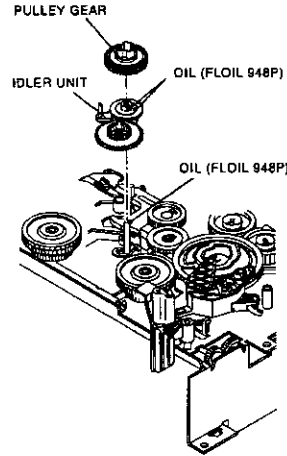

Fig. 2-24-1
- 1 Remove the PULLEY GEAR shown in Fig. 2-24-1.
- 2 Remove the IDLER UNIT shown in Fig. 2-24-1.
- 1 Apply OIL (FLOIL 948P) [859D154020] to the shaft shown in Fig. 2-24-1 in which the IDLER UNIT is to enter.
- 2 Apply OIL (FLOIL 948P) [859D154020] to the area specified in Fig. 2-24-1 on the new IDLER UNIT.
- 3 Install the IDLER UNIT shown in Fig. 2-24-1.
- 4 Install the PULLEY GEAR shown in Fig. 2-24-1.